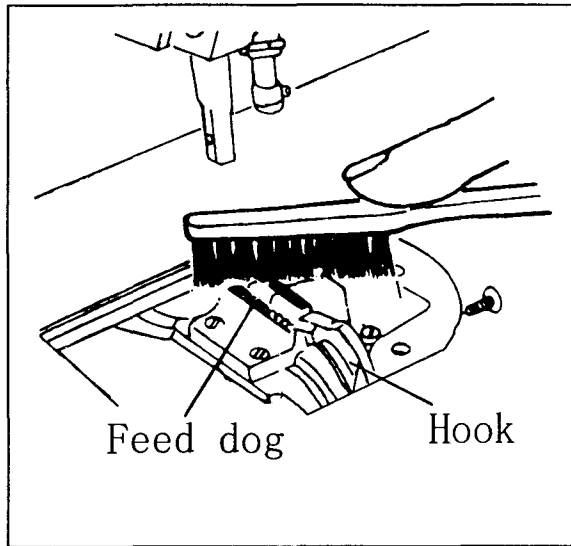

Fig. 31
23. REGULAR CLEANING (Fig.31,32,33)